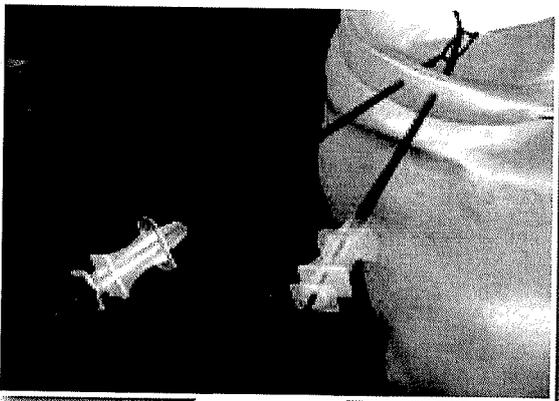

Figure 8
- ∂ Introduce the suture into the joint by threading it through the second needle and, thus, the loop. Slowly pull back on the second needle, ensuring the suture remains in the loop (Figure 8).